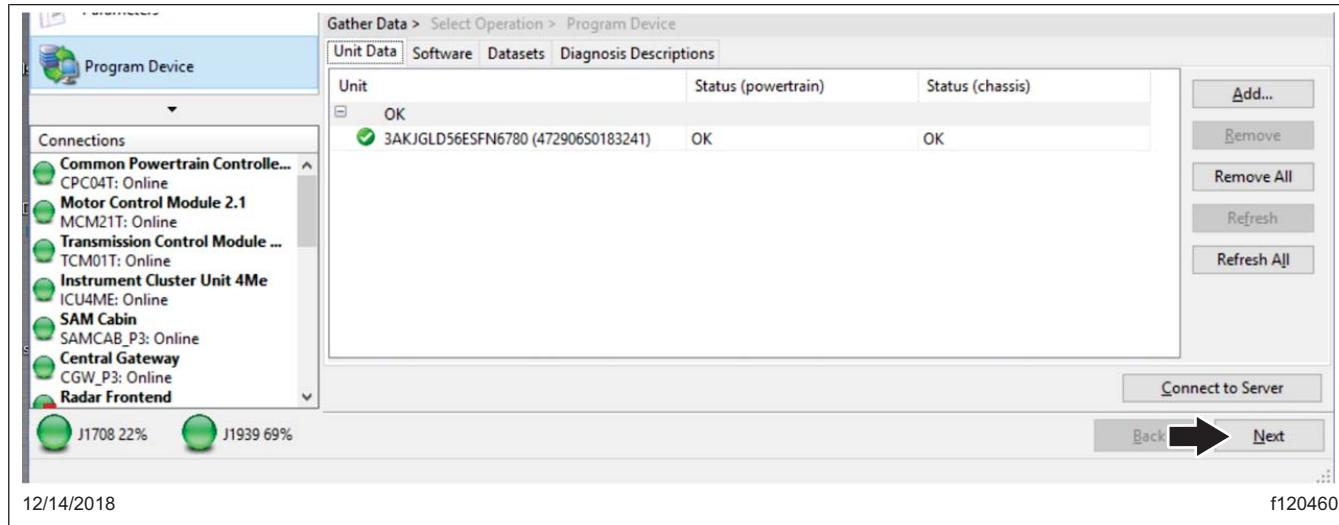

Fig. 9, Clicking Next
10. Once the data has been downloaded, click "Next." See **Fig. 9.**
9. Once the data has been downloaded, click "Next." See Fig. 9 on page 9.